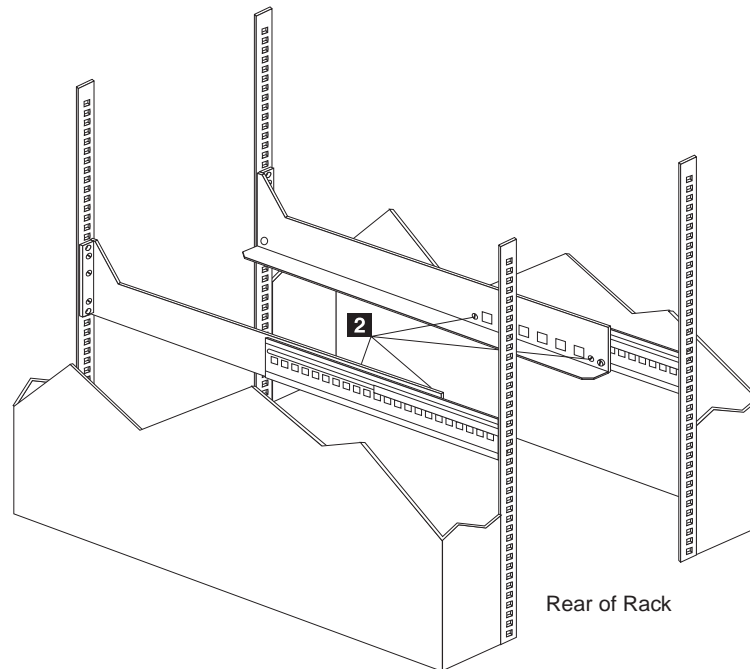

Figure 5. Aligning the rear of the rails to the rack
- i. Tighten the two side screws **2** shown in Figure 5.